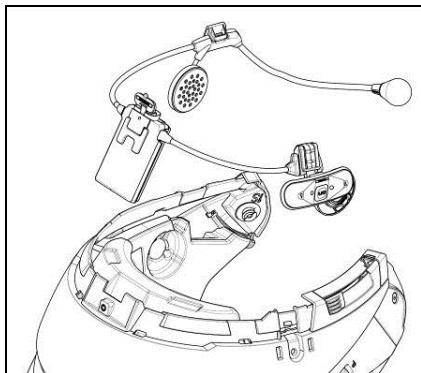

Fig. 2
- Place the system in the special housing in the back of the helmet, pushing it all the way into the groove (Fig. 2).